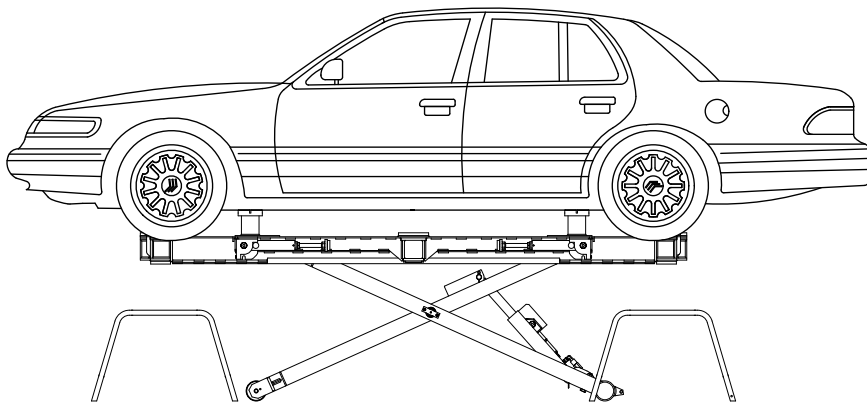

Figure 23
4. Place the Wheel Stands under each tire of the vehicle (see Figure 23).